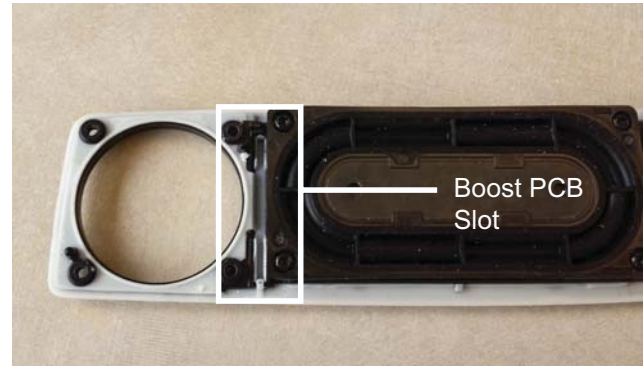

Figure 24. Boost PCB Slot
3.1 When installing the Boost PCB, ensure the board is placed in the PCB slot as you push down on the board to connect it to the main board. Figure 24.